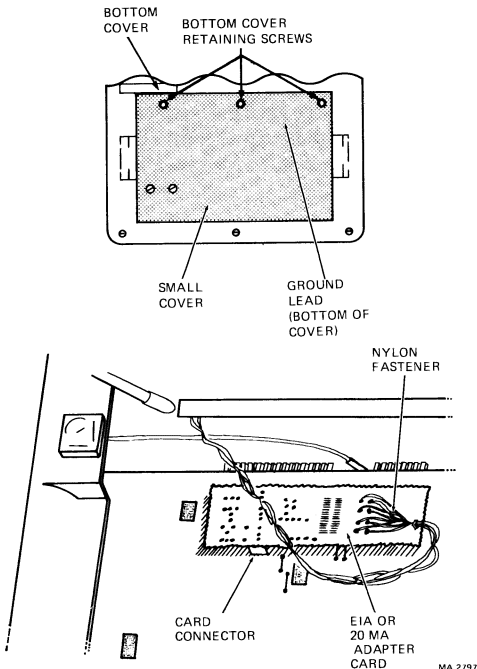

Figure 3-2 Removing and Replacing the EIA or 20 mA Adapter Card
**3.1 REMOVING AND REPLACING THE EIA OR 20 mA ADAPTER CARD (Figure 3-2)**